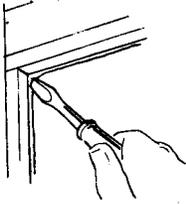

Fig. 17
- (f) Check all corners on both sides of panel for excess gasket. Tuck into corner with screwdriver if necessary (Fig. 17).